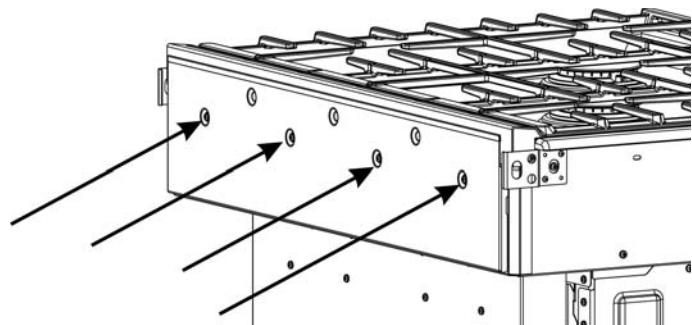
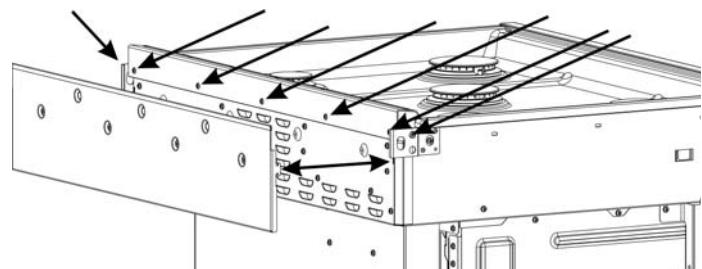

Figure 2: Rear louver cover screw locations
Figure 3: Trim screw locations (louver cover removed)
Can the range slide out enough to give access to the rear and side screws of the rear louver cover and rear vent trim? See Figure 2: Rear louver cover screw locations and Figure 3: Trim screw locations (louver cover removed).
3. Remove the four screws holding the rear louver cover. Save these screws to reattach the louver cover. See Figure 2: Rear louver cover screw locations.
4. Lift the louver cover out of the slots holding it in place. Note the slot locations for later. See Figure 3: Trim screw locations (louver cover removed).
6. Remove the screws holding the trim (five screws on the back and one screw on each end). Save two of these screws for installation of Island Trim. See Figure 3: Trim screw locations (louver cover removed).
8. Install five stand-off screws (included in the Island Trim kit) in the back of the range, in the same locations as the original 5 rear trim screws. See Figure 3: Trim screw locations (louver cover removed)